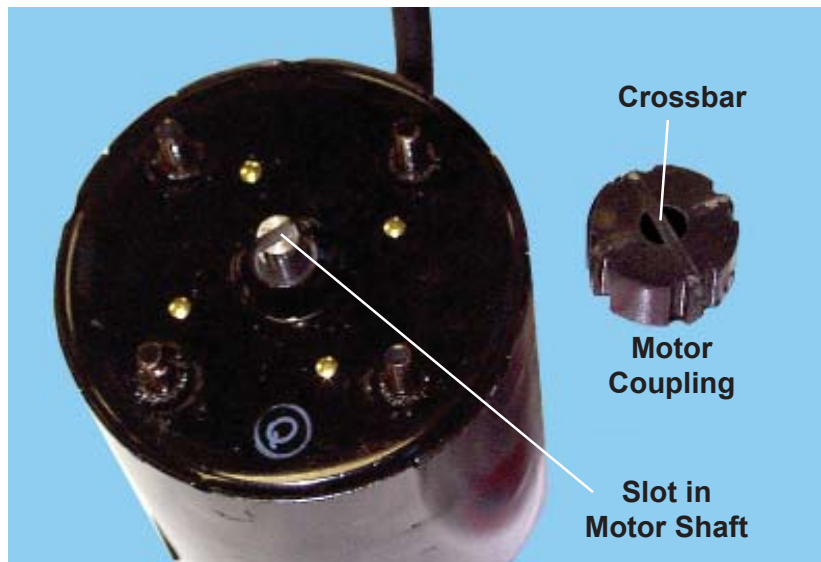

Figure 44. Motor Coupling to Motor Shaft Alignment
4. Pull the coupling off the motor shaft (Figure 44).